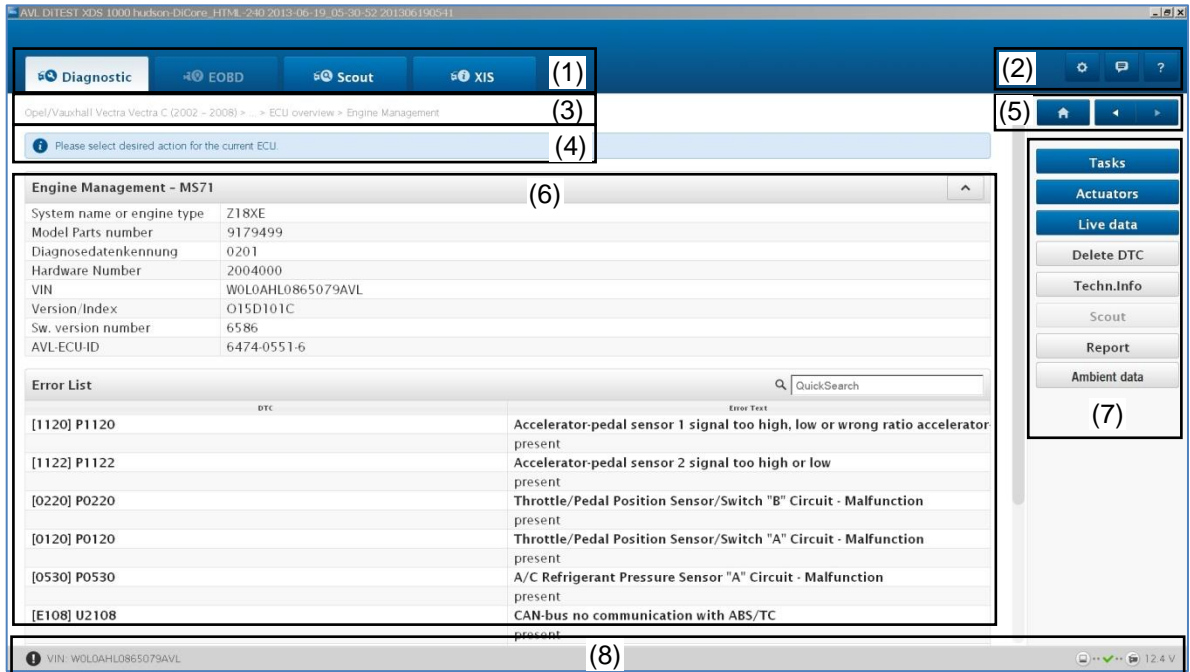

Fig. 1-1
When starting AVL DiTEST SCOUT in the "Navigation Section", see Fig. 1-1 (7), the vehicle ident data and the selected error code are automatically transferred to AVL DiTEST SCOUT.
When starting AVL DiTEST XIS in the "Navigation Section", see Fig. 1-1 (7), the vehicle ident data is automatically transferred to AVL DiTEST XIS.